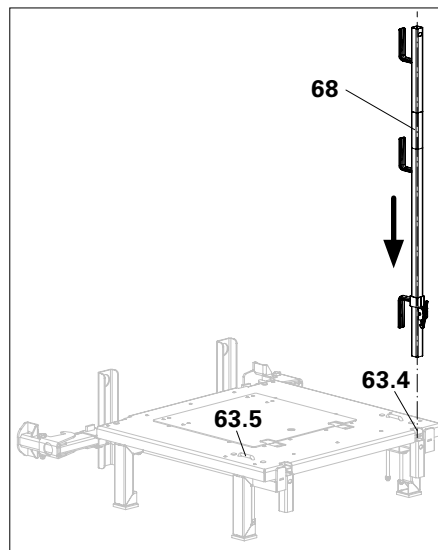

Fig. A13.13
1. Insert Guardrail Post (68) in the Post Holder (63.4) – 2x. (Fig. A13.13)